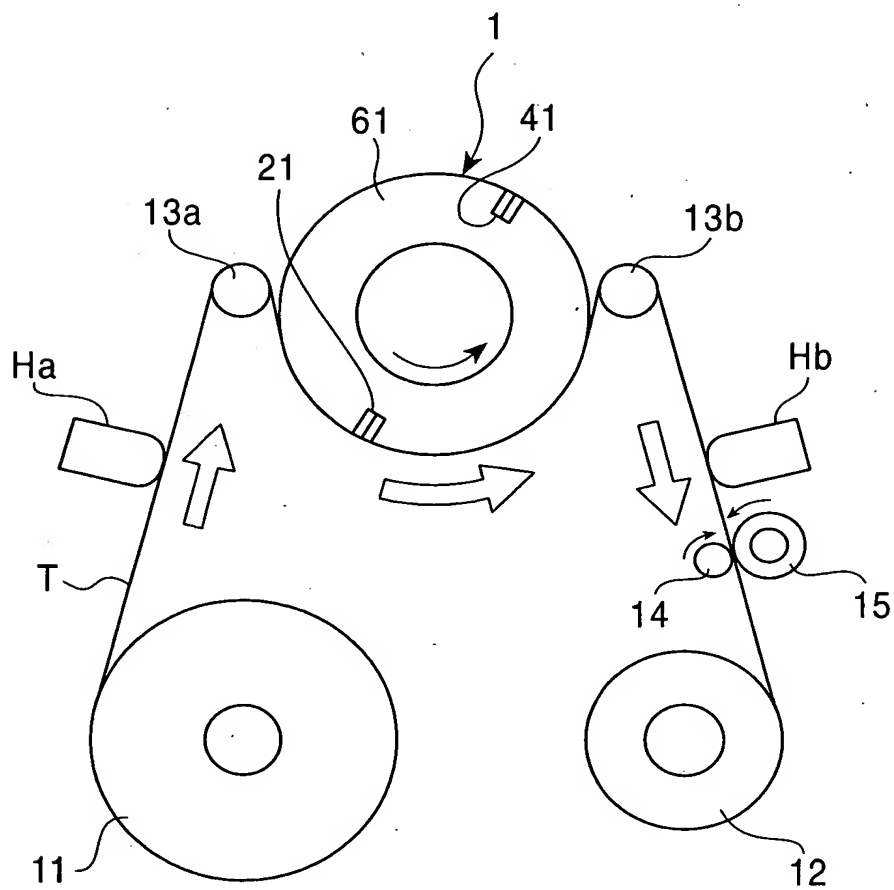

FIG. 1
Fig. 1 is a schematic diagram of a tape head assembly. The assembly includes a tape head (22) and a tape (60). The tape head (22) is positioned over the tape (60). The tape head (22) is divided into sections labeled 32, 31, 30, 23, and 26. A label 60a points to the tape head assembly. The tape (60) is shown with a tape running direction (indicated by a circle with an 'X') and a rotating direction (indicated by a circle with an 'X').
Figure 1 is a schematic diagram of a rotating body 100. The body 100 includes a horizontal section 110a and a tilted section 50. The tilted section 50 is divided into two parts, 51 and 52, by a vertical line 53. A central shaft 54 is shown with arrows indicating rotation. A torque T_w is applied to the shaft. A sensor 85 is mounted on the tilted section 50. A dashed line A-B is shown. An inset shows a detail of the sensor 85, which is a circular component 26 mounted on a base 21, with a lead line 22. A large arrow indicates the rotating direction. An angle θ is shown at the bottom right.